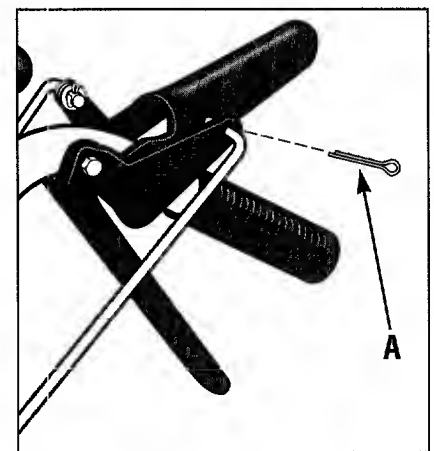

Figure 5-12A
2. Remove cotter pin (A, Figure 5-12A) from upper end of Wheel Drive Control rod. Slide rod out of lever assembly.